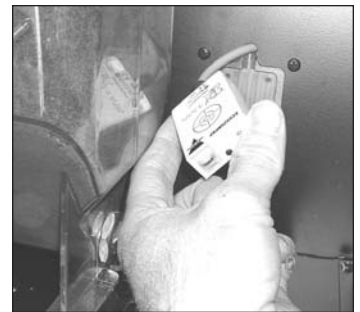

Figure 5
2. Remove Sensor screws and gently pull sensor into cabinet. (see Figure 5)